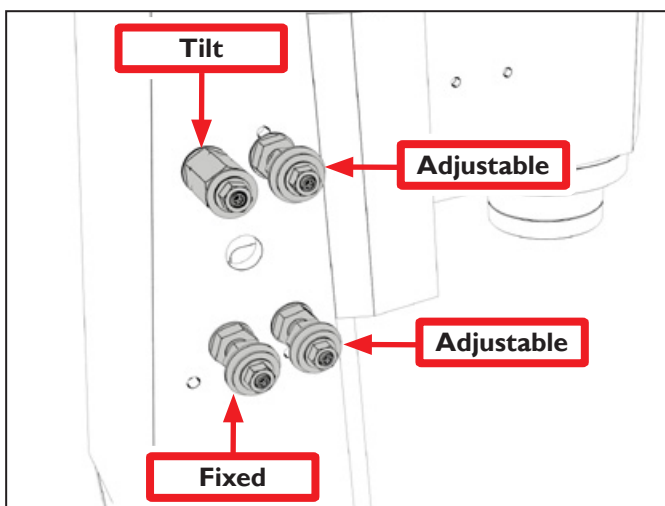

Figure 6
4. On the mill's Z-column, use an adjustable wrench to install the four standoffs in the order shown in **Figure 6**. Securely tighten the standoffs to the mill's Z-column.